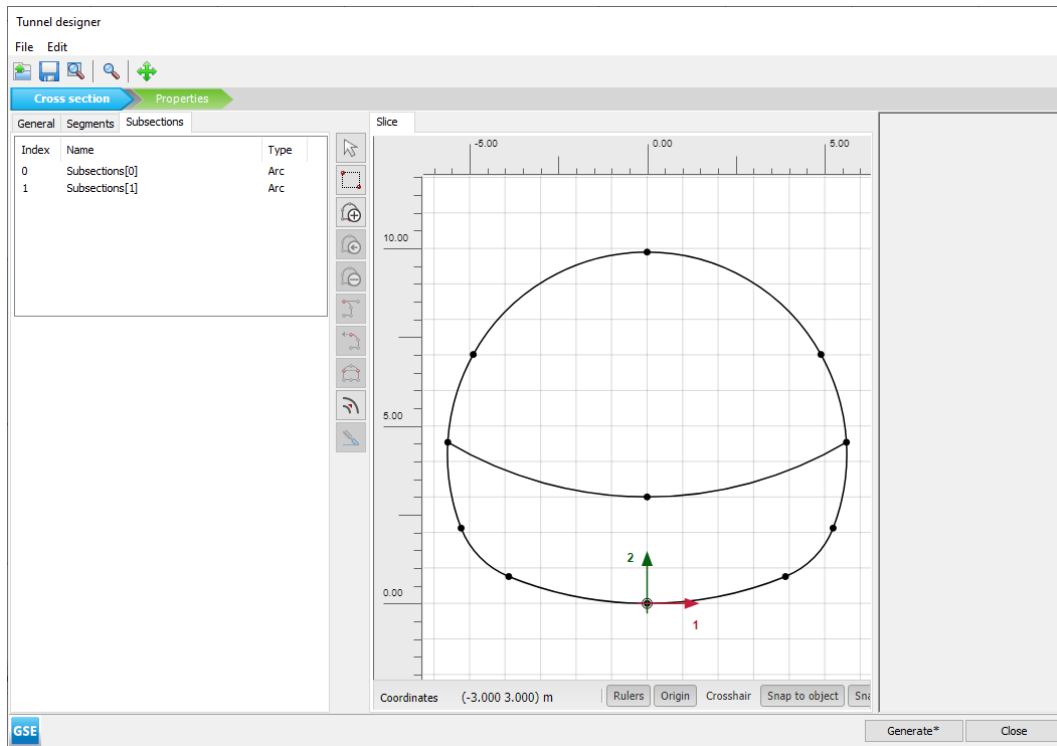

Figure 69: Segments in the tunnel cross section
17. The various segments in the tunnel cross section can be seen in Figure 69 (on page 95).